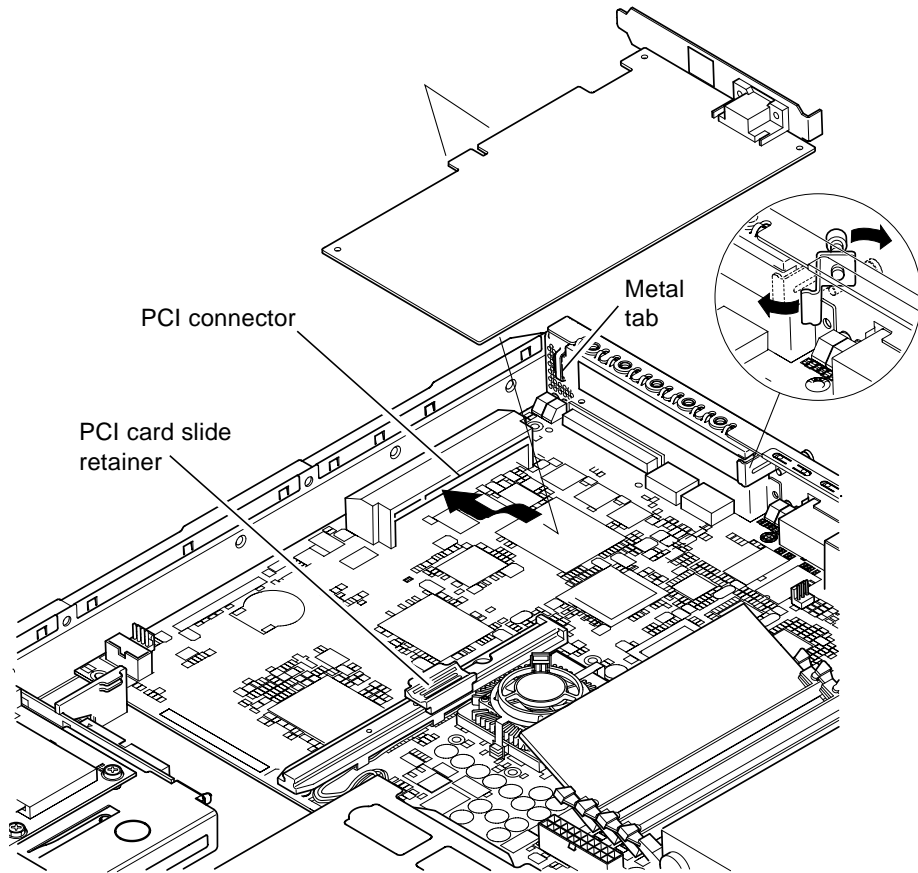

FIGURE 4-7 The Rotating Retention Bracket and the Position of a PCI Card
- 3. Loosen the captive screw holding the PCI slot’s retention bracket in place (see FIGURE 4-7).**
Rotate the retention bracket through 90 degrees (see FIGURE 4-7). This releases the filler panel in the PCI slot enabling you to remove the filler panel. Remove it.
- 4. If you are installing a full-length PCI card, slide the PCI card retainer (see FIGURE 4-7) off the PCI slide support rail on the system board.**
- 5. Insert the PCI card firmly into the PCI connector (see FIGURE 4-7) making sure that the PCI card’s bracket is correctly positioned against the rear of the chassis.**
The tapered end of the bracket must be inside the small metal tab designed for it on the chassis (see FIGURE 4-7).
7. Reposition and tighten the rotating retention bracket (see FIGURE 4-7) to secure the PCI card to the chassis.
2. **Loosen the captive screw that secures the rotating retention bracket (the screw and bracket are illustrated in FIGURE 4-7).**
Rotate the retention bracket through 90 degrees (see FIGURE 4-7).
6. **Replace the filler panel for the PCI slot (in the back panel of the chassis), and tighten the captive screw that secures the rotating retention bracket (see FIGURE 4-7).**